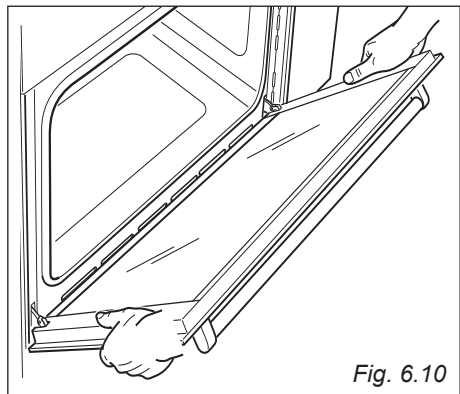

Fig. 6.10
- Hold the door as shown in fig. 6.10.